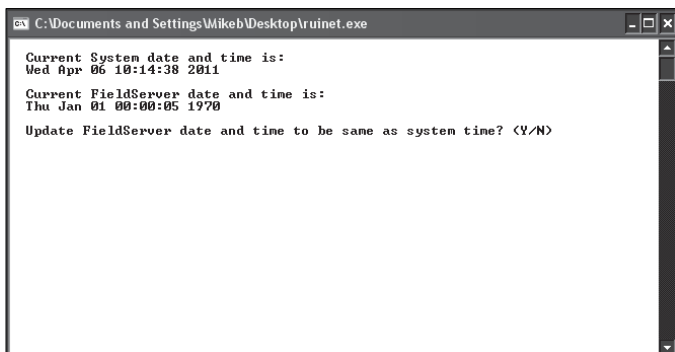

Figure 10: Update FieldServer Date and Time
2.) If RUINET is in the desktop directory (if it isn't, locate its directory), double-click on RUINET, and the RUINET program should run. Initially, you might see the screen below (**Figure 10**).